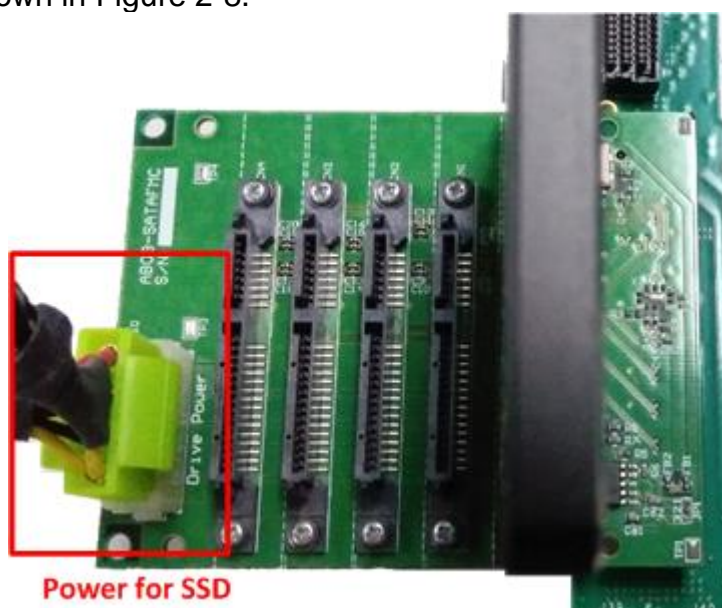

Figure 2-8 Power for SSD on FMC Adapter
- b) For FMC adapter, ON power supply which is connected to power connector on the adapter, as shown in Figure 2-8.